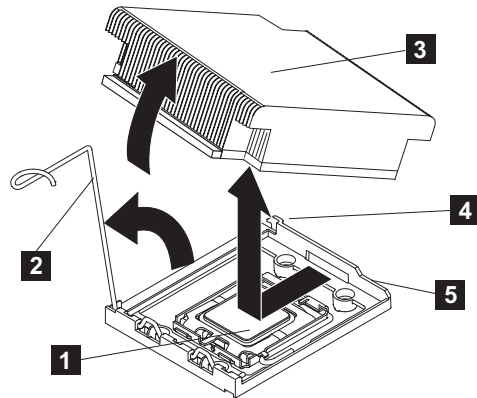

Figure 244. Removing the heat sink from the SAN Volume Controller 2145-CF8 microprocessor
8. Disconnect any cables that impede access to the heat sink (**3** in Figure 244 on page 261) and the microprocessor (**1**).